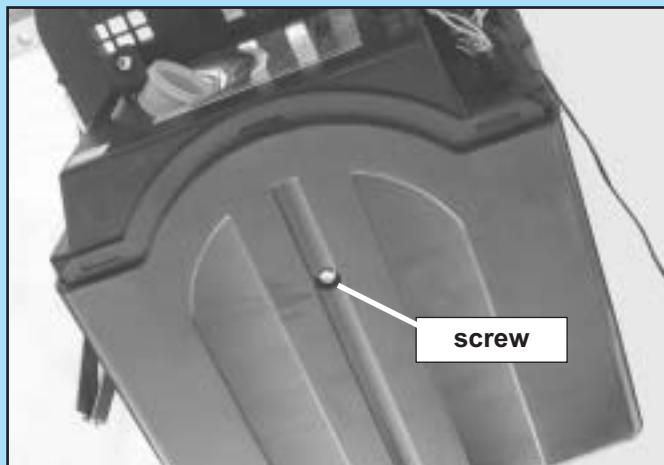

FIG. 6-1 Removing motor cover.
- Remove motor cover (**Fig. 6-1**).